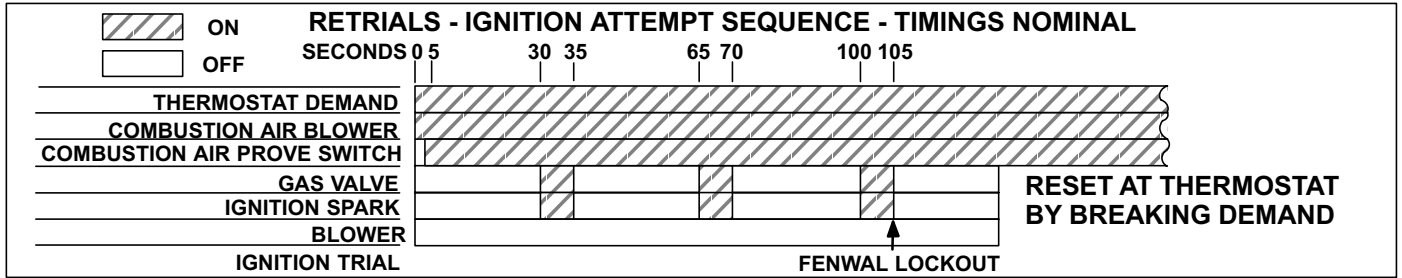

FIGURE 22
- d- Proper gas/air mixture is required for ignition on the first attempt. If there is any deviation, within tolerance of the unit, a second or third trial may be necessary for ignition. The control will lock out the heating system if ignition is not obtained within three trials and the (indoor) blower will not start. Reset after lockout requires only breaking and re-making thermostat demand. See figure 22 for the ignition attempt sequence with retries (minimal timings given for simplicity). Loss of flame during a heating cycle is indicated by an absence of flame signal (0 microamps). If this happens, the control will immediately restart the ignition sequence and then lock out if ignition is not gained after the third trial.